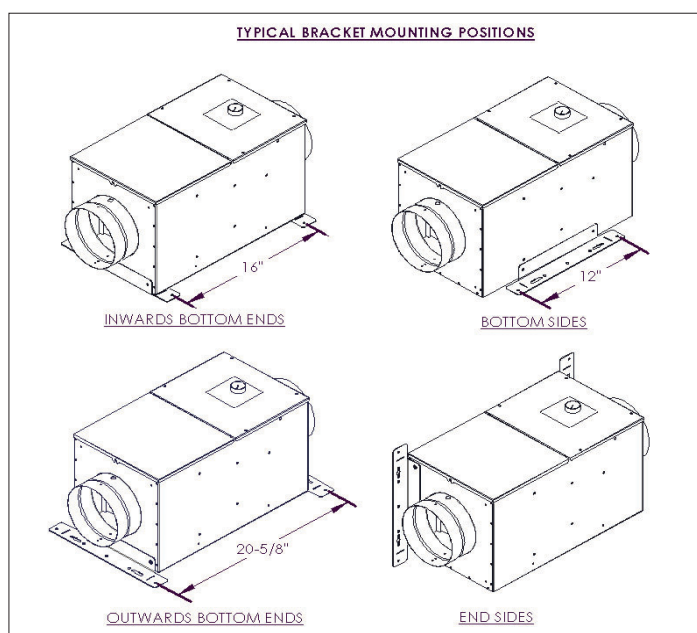

Figure 1 - TYPICAL BRACKET MOUNTING POSITIONS
3. Attach the mounting brackets to the FAPV fan unit in any of the opposing positions shown in Figure 1, using the supplied #10 blunt-tipped sheet metal screws. The brackets must either be on opposite sides or opposite ends of the FAPV fan unit for secure mounting.